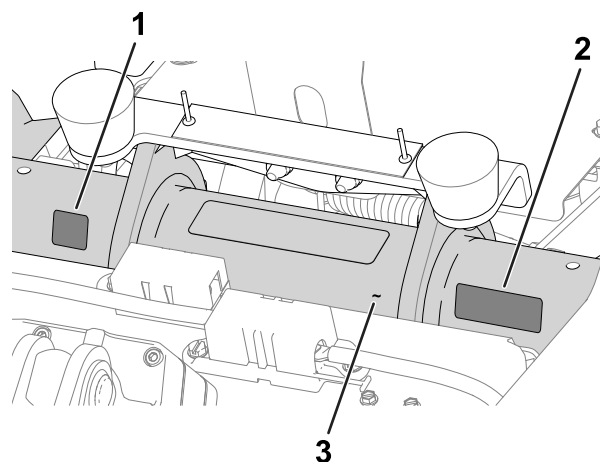

Figure 11
- **Production year decal** and **CE/UKCA decal**: apply the decals on the frame tube below the seat and serial plate; refer to Figure 11.